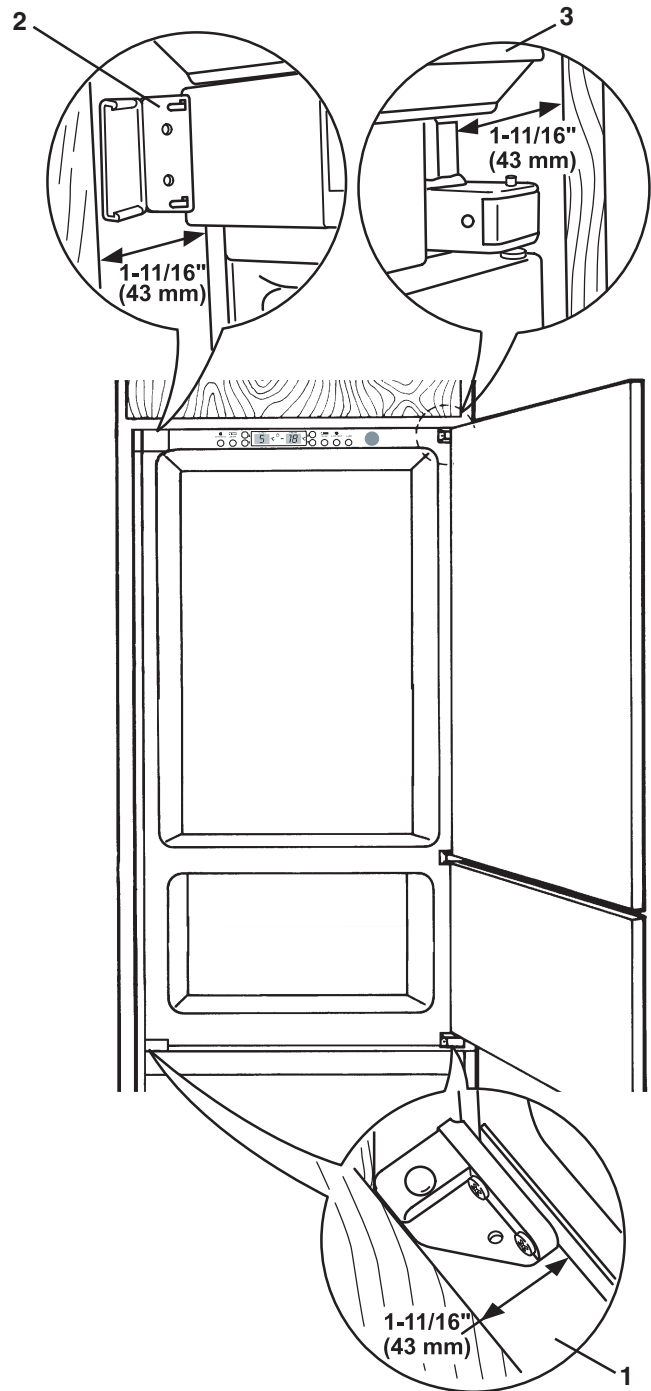

Figure 18
5. Slide the appliance into the kitchen cabinet (**Figure 18**):
- Make sure the front of the bottom bracket and front of the bottom hinge (**Fig. 18, 1**) are flush with the front edge of the kitchen cabinet.
- Align the front edge of the open top bracket (**Fig. 18, 2**) so it is flush with the front edge of the kitchen cabinet. With the top bracket open, the distance between the front edge of the kitchen cabinet and the appliance housing must be 1-11/16 in. (43 mm).
- Verify the distance between the front edge of the kitchen cabinet and the appliance on the hinge side (**Fig. 18, 3**) is 1-11/16 in. (43 mm).